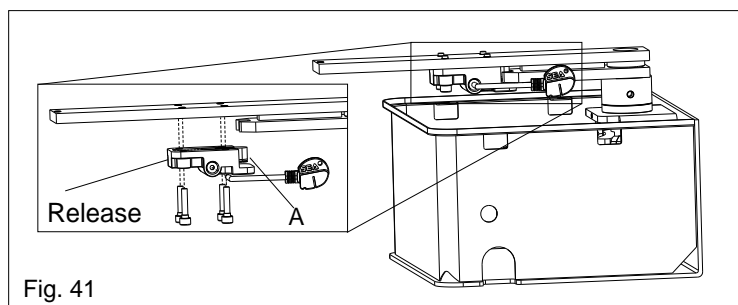

Fig. 41
13.1. Grease the hinge (A) and mount the release system under the leaf device using the 4 furnished screws (Fig. 41)